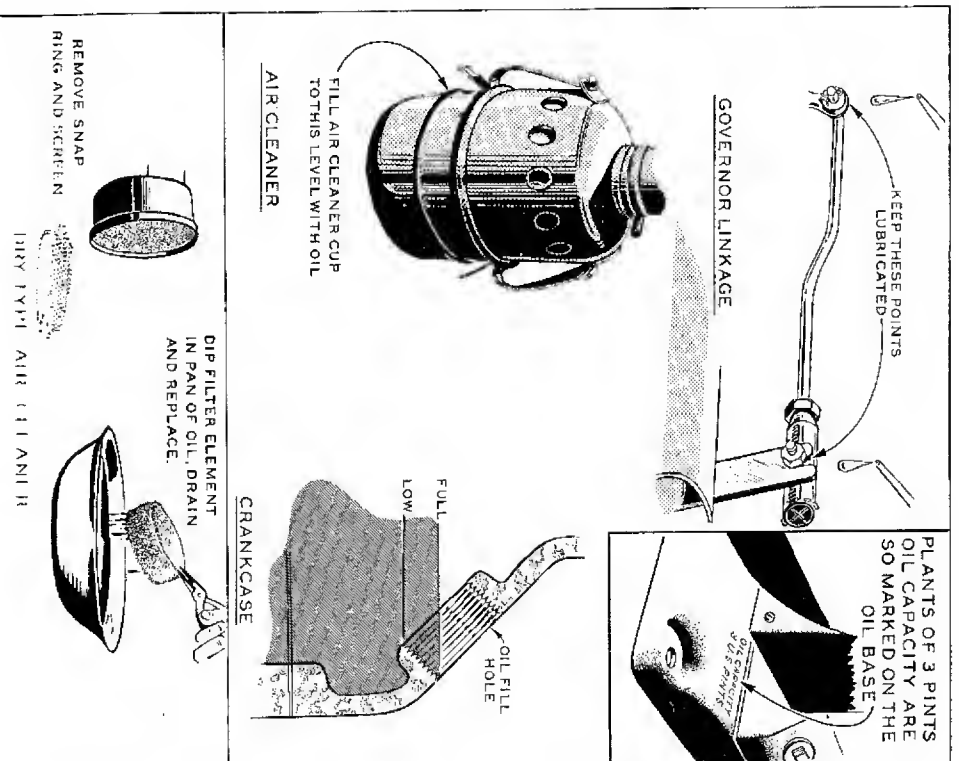

FIG. 3 LUBRICATION
LUBRICATION.- The oil capacity of the plant is 2 quarts unless the oil base is marked 3 pts as shown in Fig. 3. Use a good quality detergent oil of the proper SAE number as indicated in the following table. Temperatures indicated are for conditions where the plant will be stopped long enough to cool to the surrounding temperature. Be sure the plant is setting level when filling with oil. Fill to the top of the threads in the oil fill hole.
**LUBRICATION.**- In temperatures above 90° (32° C) use SAE number 50 oil. Keep the oil level close to the full level (See Fig. 3), and change the oil at least every 100 operating hours.